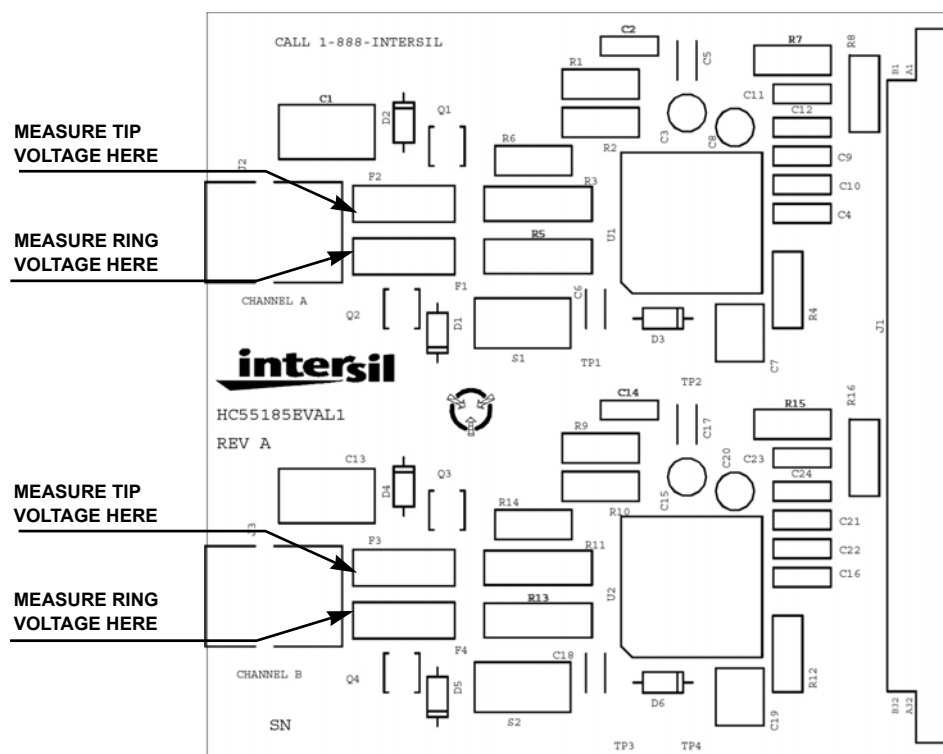

FIGURE 6. DAUGHTER BOARD LAYOUT
4. Measure the tip and ring voltages (reference Figure 6) and compare to those in Table 1 (onhook).